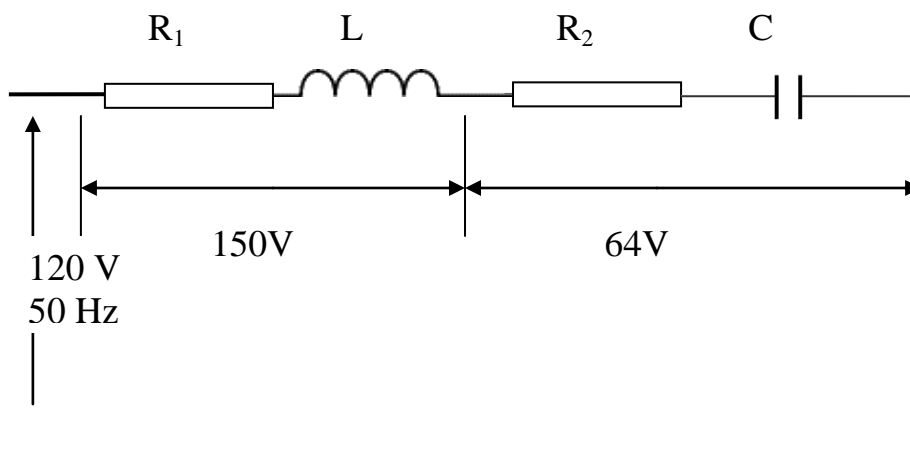

Fig Q4
- (a) the supply current; (8)
- (b) the effective resistance of the non-linear element; (6)
- (c) the current in each of the two paralleled resistors. (2)
- (a) Sketch a circuit diagram for the arrangement. (2)
- (i) the load voltage when the load current is zero and the supply voltage is 15 V; (4)
- (ii) the load voltage when the load current is 30mA and the supply voltage is 40 V; (3)
- (iii) the minimum value of input voltage to give a stabilised load voltage when the load current is 30 mA; (3)
- (iv) the power dissipated in the Zener diode when the supply voltage is 50V and the output load current is 20 mA. (4)
4. The series circuit shown in Fig Q4 is connected to 120V 50Hz. It draws a current of 2.4 A at a power factor of 0.8 lagging. The resistor R_2 dissipates 57.6 W and the volt drops across the various parts of the circuit are as shown.